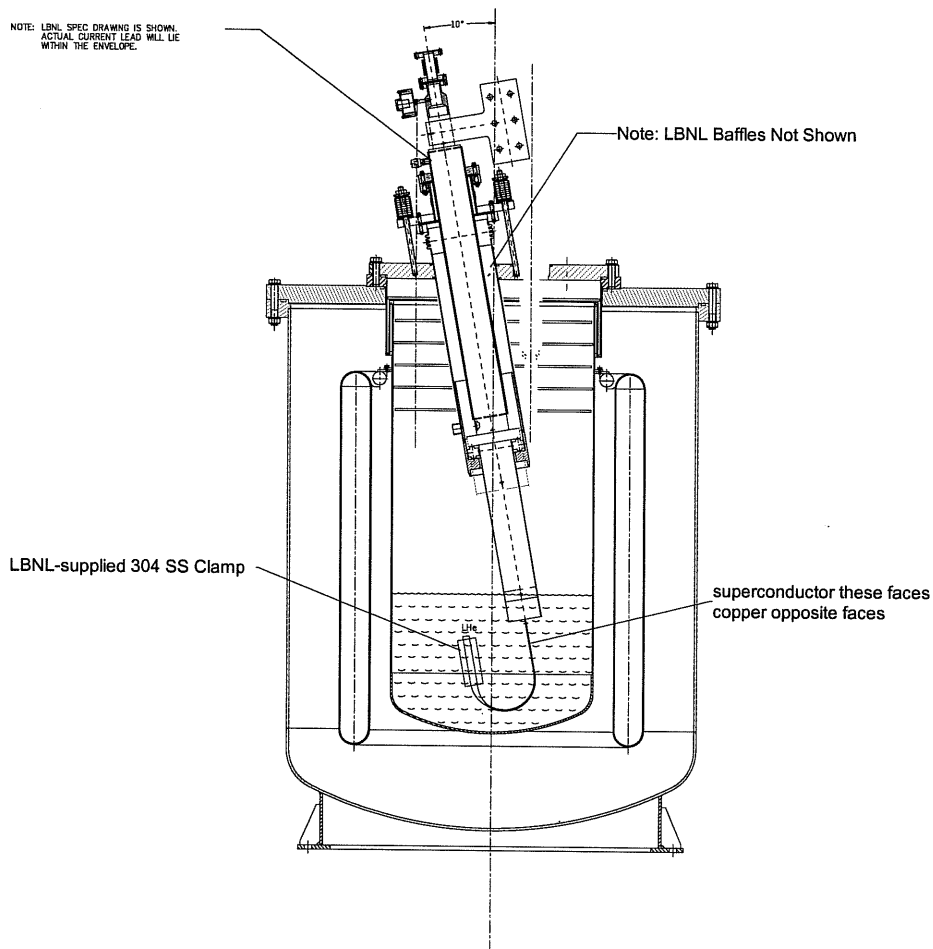

Figure 6.1-1 Side View of Lead in Cryostat with the LTS cables connected in a “Praying Hands Type Joint.
- 6.1** Make connection to LTS pigtails. Use a "Praying Hands" type joint 120 mm-long as shown in Figures 6.1-1 and 6.1-2. The ends of the LTS pigtails are individually pretinned for about 120 mm by Pirelli, and the joint is a mechanical connection with indium foil (supplied by LBNL) between the cables to ensure good electrical connection. The conductors are arranged in a spiral path so the NbTi cables in the joint are facing each other, with the copper cables against the stainless steel mechanical clamp. Note: Lionel Metral has the stainless steel mechanical clamp locked in his cabinet in B276.